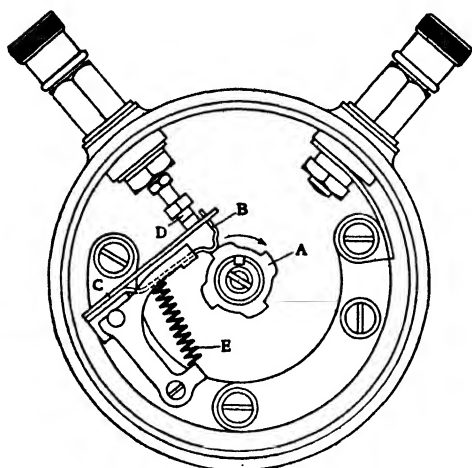

Fig. 127. Diagram of Earlier Model of Delco Interrupter
*Earlier Model Interrupter.* In an earlier model which will be found on a great many cars, the contacts are normally held open, Fig. 127. The movable contact is carried on a straight spring blade to which is attached a bent spring blade *B* held against the cam by the spring *E*. The latter also places the spring *C* under slight tension and holds the movable contact away from the stationary contact *D*.